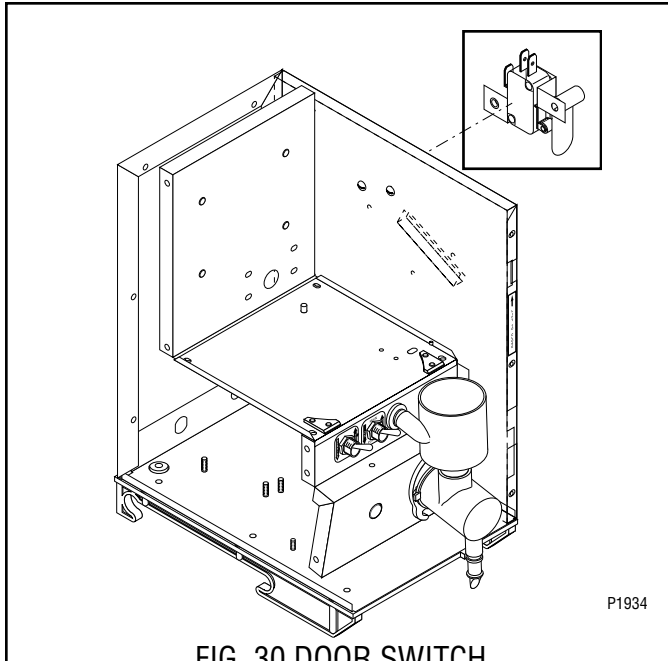

FIG. 30 DOOR SWITCH
15. Install the door switch actuator orienting the notched side against the right side housing panel. Refer to Fig. 30.